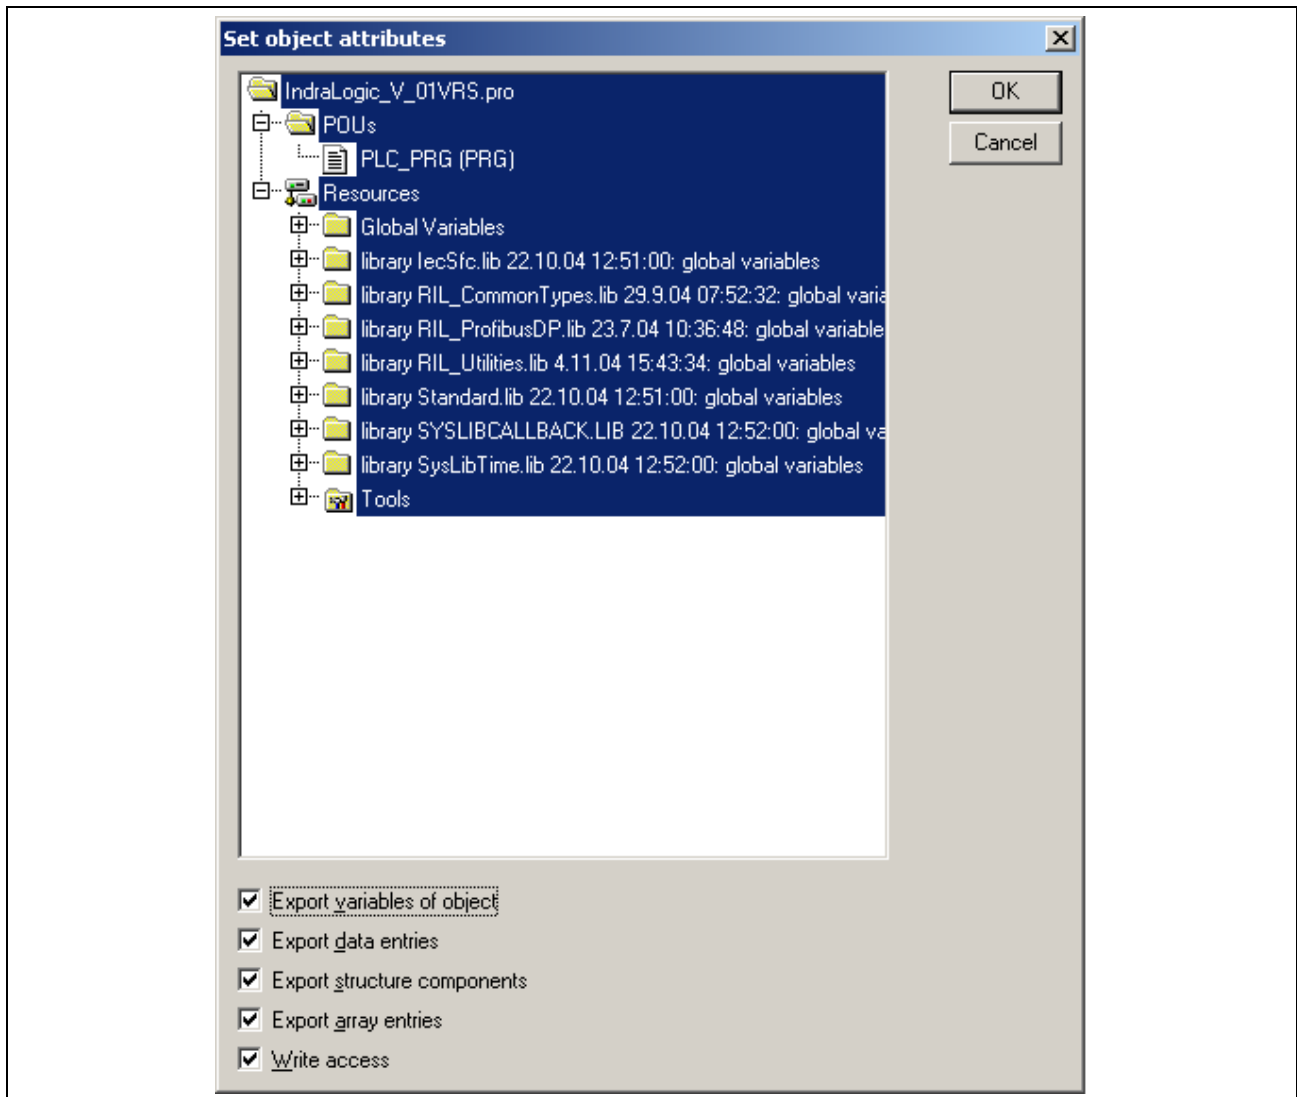

Fig. 3-48: IndraLogic symbol file configuration
- Fig. 3-48: IndraLogic symbol file configuration 3-45